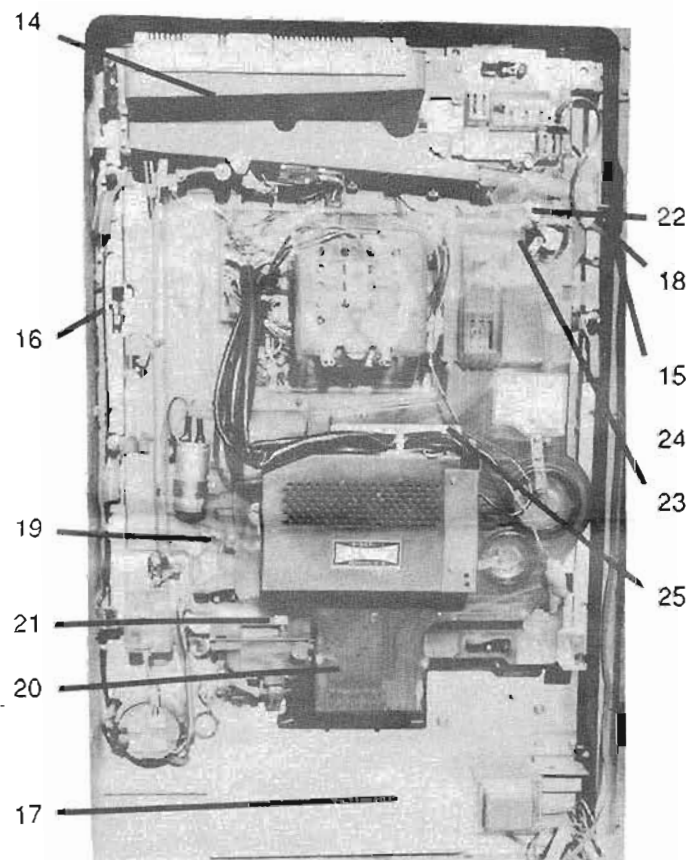

FIGURE 3
1) Put at least 150 balls in tray (14).
2) Swing jackpot SWING DOOR (22 yellow) up so you can reach the payoff METAL PIT (23) and the JACKPOT CRANKS (24). See figure 3 below:
3) Make sure there are no balls in the CHUTE (20). If there are balls in this chute, they must be removed by pushing up and down on the BALL RELEASE SCREW (21 yellow) while pushing down on PAYOFF METAL PIN (23 yellow). The balls will release easier if the CHUTE (20) is tapped firmly. Make sure METAL JACKPOT CRANK (24 white) is touching the PAYOFF METAL PIN (23) while moving up and down. See figure 3 below.